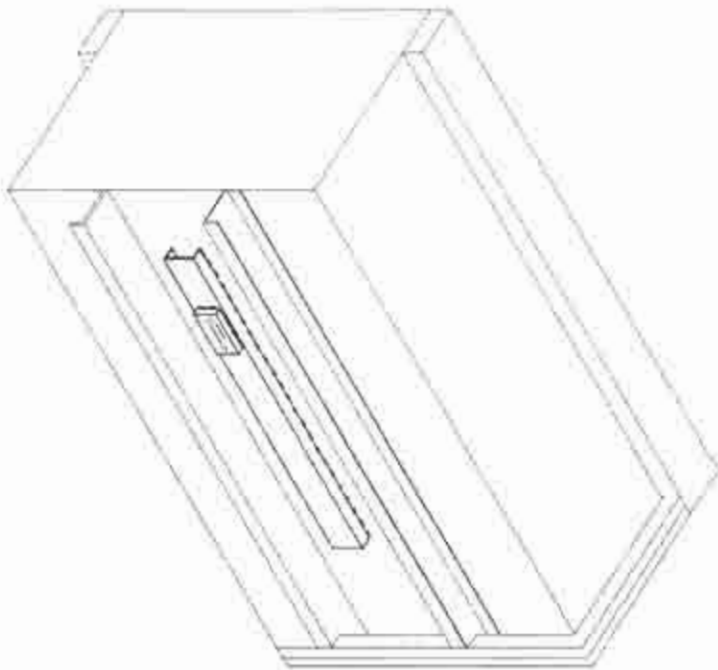

Fig. 7
1. Refer to the illustration that closely matches your truck (Fig. 7 or 8).
5. Skip weld mount plate to channel with 5356 aluminum mig wire or low hydrogen rod as shown in Fig. 7 or 8.